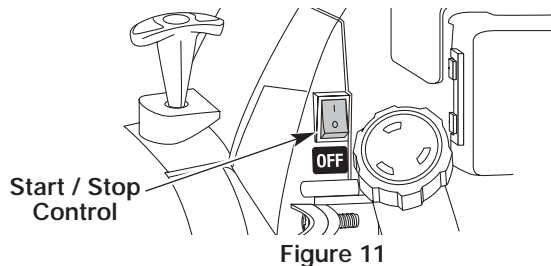

Figure 11
3. Put the Start/Stop Engine Control in the **START [I]** position. See Figure 11.
1. Put the Start/Stop Engine Control in the **START [I]** position. See Figure 11.
2. Put the On/Off Stop Control in the **OFF (O)** position. See Figure 11.